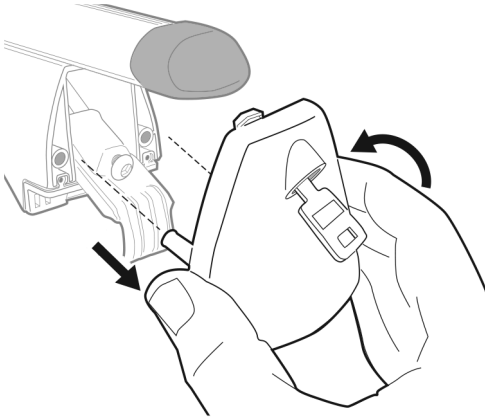

Fig. 5
1. First, on each roof bar, remove the lock on each side of both roof bars. To do this, insert the key into lock and turn it by 90° anti-clockwise. Then pull out the lock as shown in Figure 5 (Please note: you will need to use a certain degree of force to pull the lock off the roof bar).